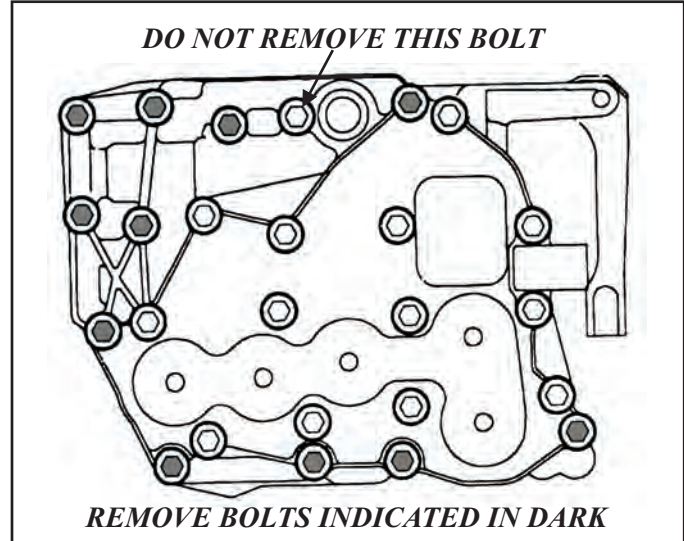

Figure 62
9. To remove the valve body assembly, remove the eleven outside 8mm bolts highlighted in figure 62. Do not remove the top center bolt shown in Figure 62.